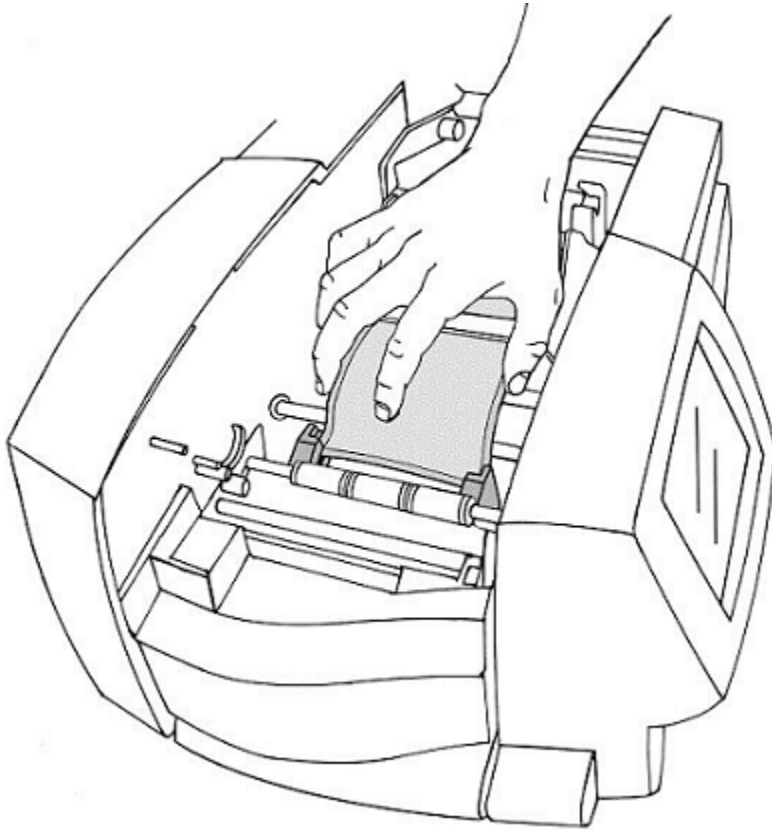

Figure 2-7. Advancing the tape.
Step 5: Advance the tape over the first roller with your hand as shown in Figure 2-7:
Step 6: Place the end of the tape between the tape guides as shown above in Figure 2-7.